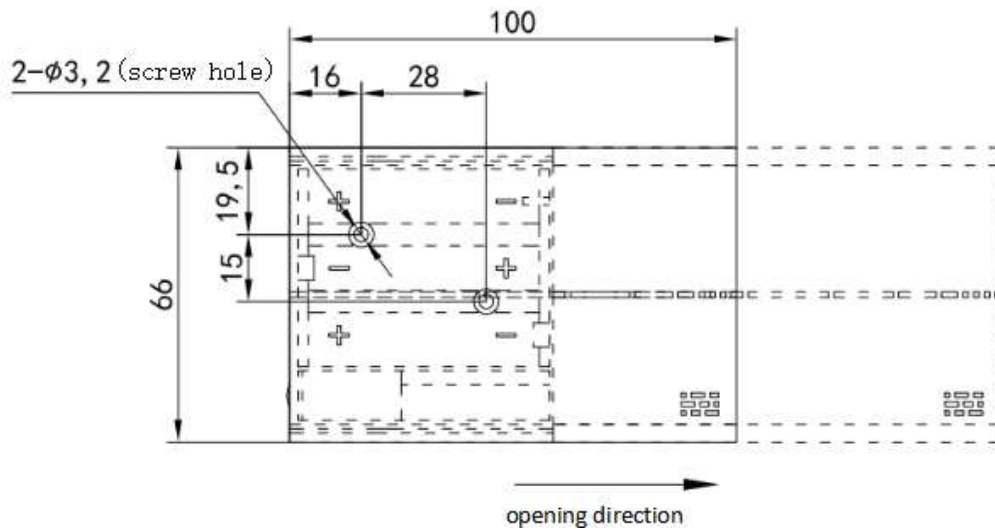

Figure 2
- a. Slide to open the Safe Monitor cover to reveal two installation holes. The screw hole is located in the battery case shown in Figure 2.